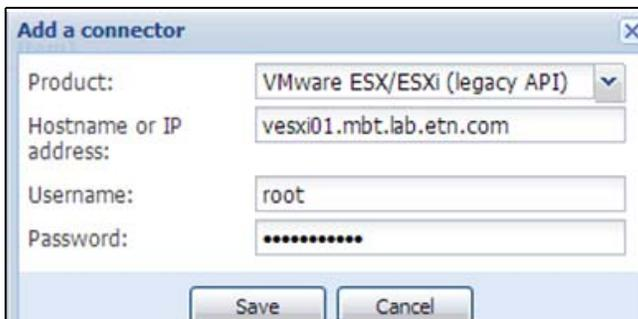

Figure 93. Add VMware ESX/ESXi
2. Add identification information for the selected connector (see Figure 93)